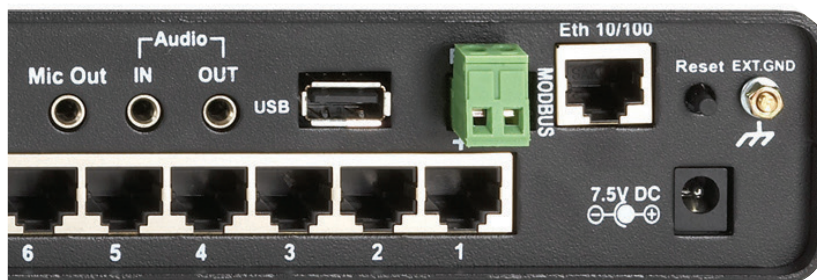
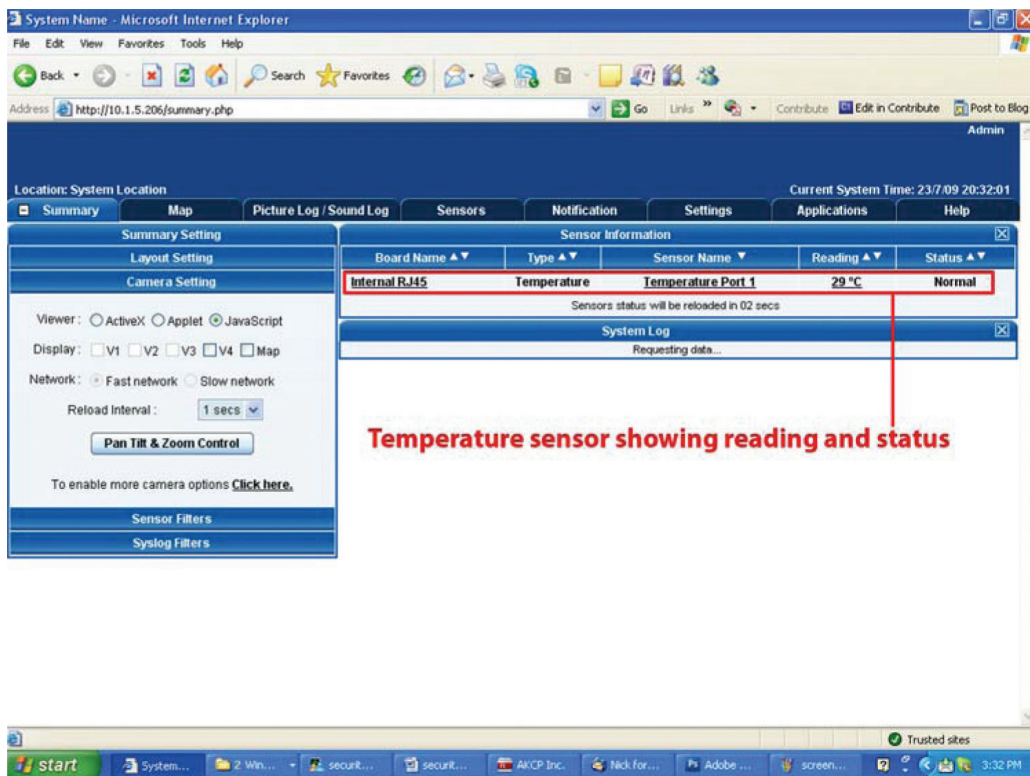
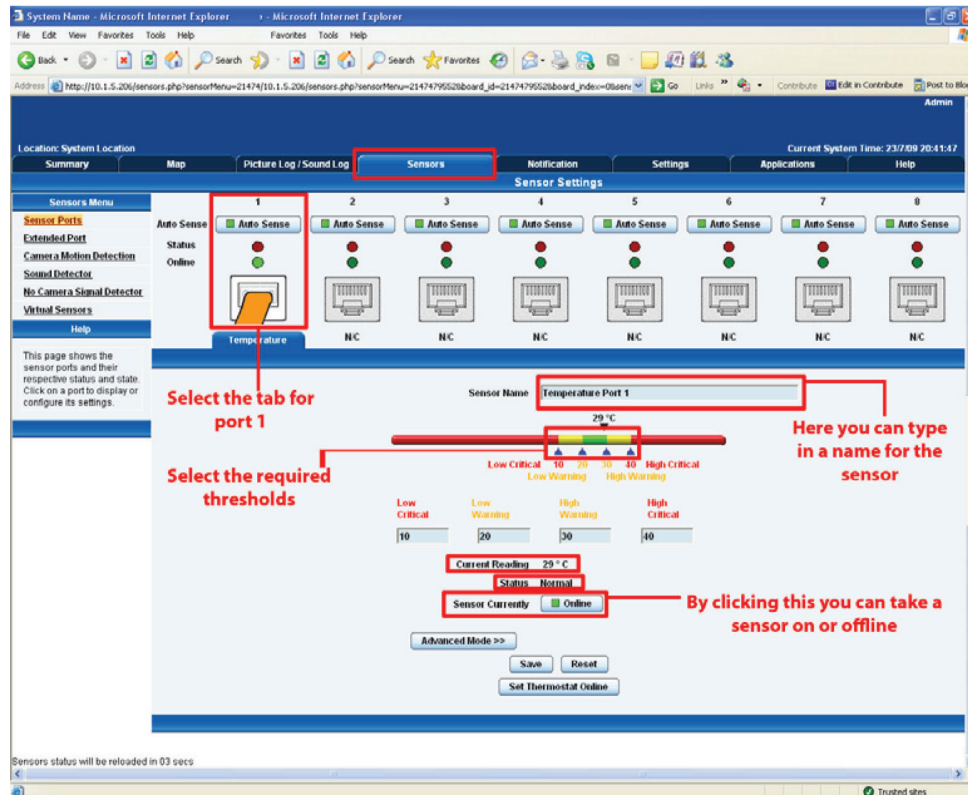

Figure 3-29. Intelligent sensor Port 1.
Figure 3-30. Summary page.
Figure 3-31. Sensors page.
1. Plug the sensor into one of the RJ-45 “intelligent sensor ports” on the ServSensor’s rear panel. In this example, we will use Port 1. See Figure 3-29.
2. Point your browser to the ServSensor's IP address (the default is 192.168.0.100). Log in as the administrator using your administrator password (the default is "public"). You will then be taken to the summary page shown in Figure 3-30.
3. Click on the temperature sensor's name (indicated in Figure 3-29). This will bring you to Figure 3-31, the Sensors page.
From this page, you can carry out various operations as indicated above. You can also view the current status (normal, low critical, high critical, etc). In Figure 3-30, the sensor indicates a temperature of 29° C and a status of Normal. If you click on the blue marker arrow next to the "Set the required threshold" label (shown in Figure 3-31), you can drag this marker to re-configure the thresholds. After dragging the marker, click "Save." In Figure 3-31, you can see that this marker has been moved to make a new threshold, and the sensor status has changed along with it.